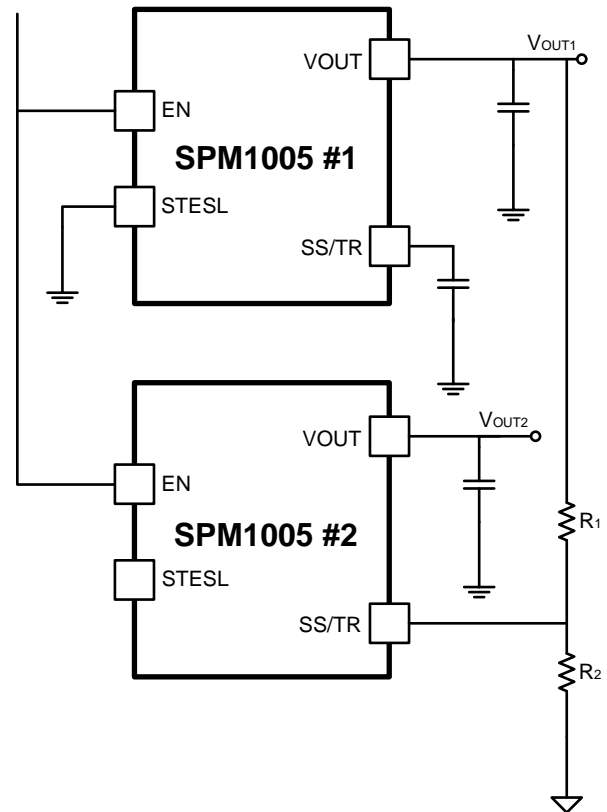

Fig. 34 Tracking Startup Schematic
With tracking mode the output voltage of the SPM1005 is controlled by another voltage applied to its SS/TR input. Tracking startup of two SPM1005 modules can be achieved by connecting a resistor network of  $R_1$  and  $R_2$  as shown in Fig. 34, where the output voltage of the second SPM1005 module (bottom) will track the output voltage of the first SPM1005 module (top). In this case, the soft-start time of SPM1005 module #1 is determined by the capacitor connected to its SS/TR pin and the STSEL pin is connected to ground. The voltage at SS / TR pin of the second SPM1005 module is directly controlled by the output voltage of the first SPM1005 module through the resistor divider ( $R_1$  and  $R_2$ ). The STSEL pin of the second SPM1005 module should be left open.
Resistor divider  $R_1$  and  $R_2$  in Fig. 34 can be calculated using Equations (7) and (8). **Note:** The SPM1005 can track any external voltage, so the master can be an SPM1005 or any other POL. Tracking may also be used to adjust the
**Note:** when used in tracking mode, if the slave unit (module #2 in Fig. 34) shuts down while the other module is still operating, a latch-up condition can occur where the slave unit does not restart. To avoid this, it is necessary to pull down the SS/TR pin of module #2 to below 60mV momentarily, to initiate a normal start-up sequence.